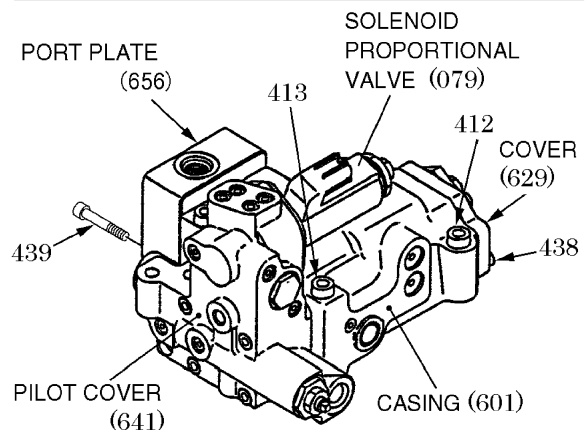

Fig. 1-32 Removing regulator
3) Remove regulator (See Fig.1-32)
4) Remove port plate (See Fig.1-32)